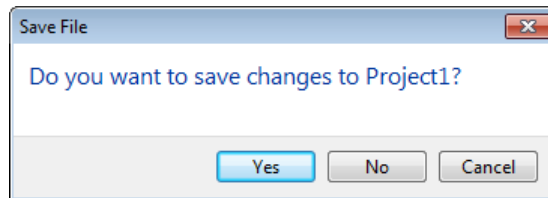

Figure 2-16 The *Save File* message box
To exit the Autodesk Revit session, choose the **Exit Revit** button from the **Application Menu**. Even if the project is open, you can still choose the **Exit Revit** button to close the file and exit Revit 2017. In case, the project has not been saved, it enables you to save the work through the **Save File** message box, as shown in Figure 2-16. If you choose the **No** button, all the changes that were not saved will be lost. You can also use the **Close** button (X) in the main Revit window (in the title bar) to end the Revit 2017 session.